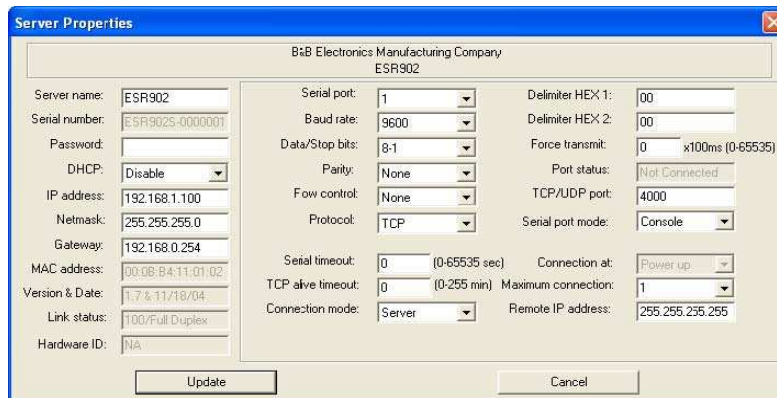

Figure 1-1: Server properties window
2. Double click the desired serial server port on the list to bring up the “Server properties” configuration screen (see Figure 1-1).